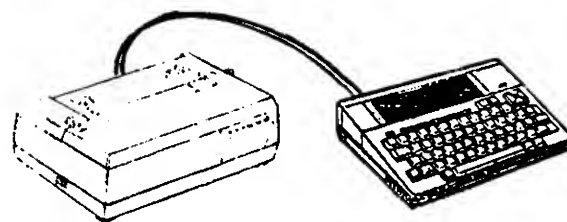

Figure 740-8 Locating Printer
4. Connect one side of the 8-pin floppy disk cable to the FDD interface on the rear panel of the PC-8300. See Figure 740-8.
1. Locate the PC-8300 and the printer near each other. See Figure 740-8.